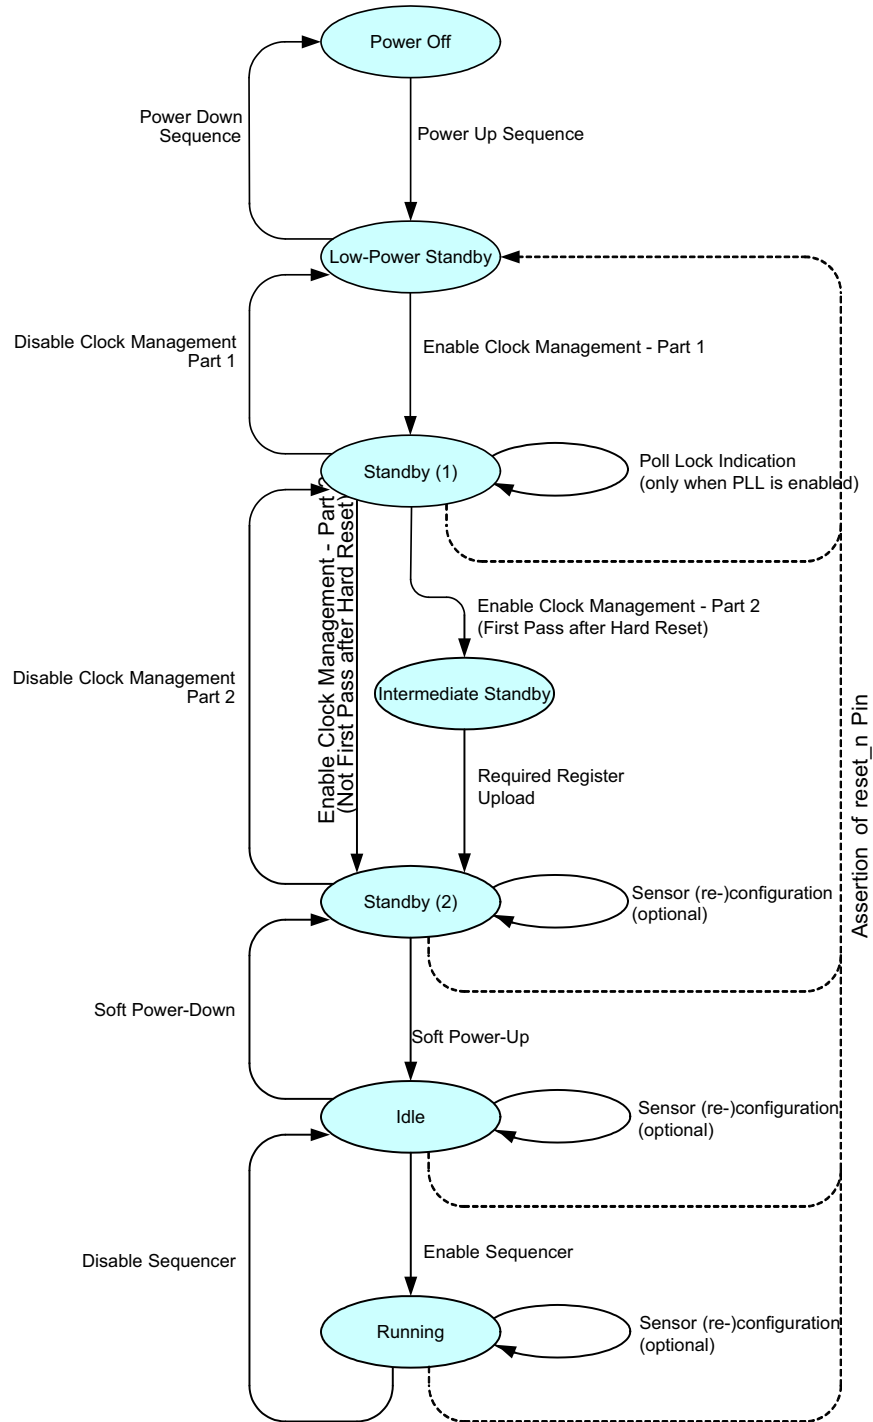

Figure 16. Sensor Operation Flowchart
Figure 16 shows the sensor operation flowchart. The sensor has six different ‘states’. Every state is indicated with the oval circle. These states are Power off, Low power standby, Standby (1), Standby (2), Idle, Running.
Check the PLL_lock flag 24[0] by reading the SPI register. When the flag is set, the 'Enable Clock Management' action can be continued. When PLL is not used, this step can be bypassed as shown in Figure 16 on page 16.